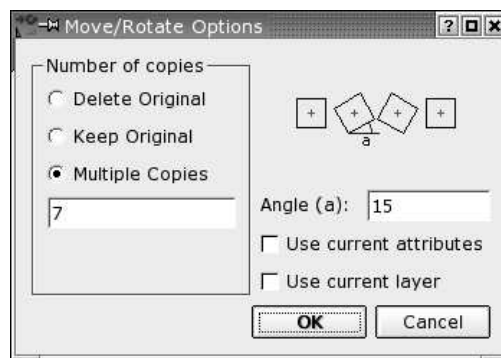

Figure 59: Move and Rotate options dialog.
6. The move and rotate dialog is displayed (Figure 59). To move the entities, choose "Delete Original", to copy them choose "Keep Original". Finally you can create a number of copies at once, by choosing "Multiple Copies" and entering the number of copies in the text line below. Note that '9' will create 9 copies and keep the original - so there will be 10 instances of the entities in the end. The copies will have the same attributes and be on the same layer as the original entities. To change that default behavior, you can tick "Use current attributes" or "Use current layer".